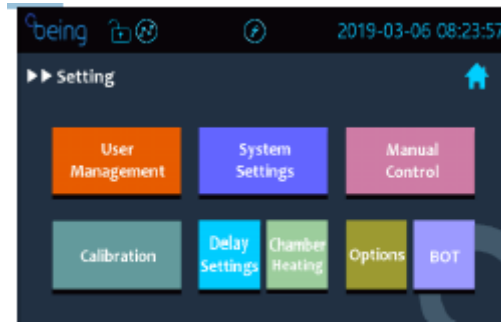

Figure 1-20
7. Touch the "Setting" button from the home page to enter the setting page, as shown in Figure 1-20.